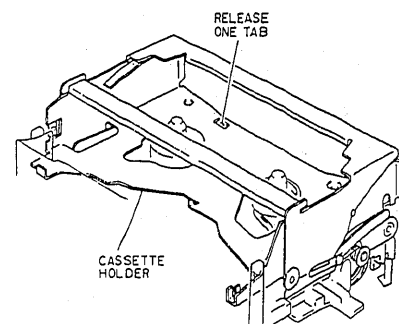

Fig. 2-52
(See Fig. 2-52)
3. Release one (1) tab and lift up the cassette holder. (See Fig. 2-52)